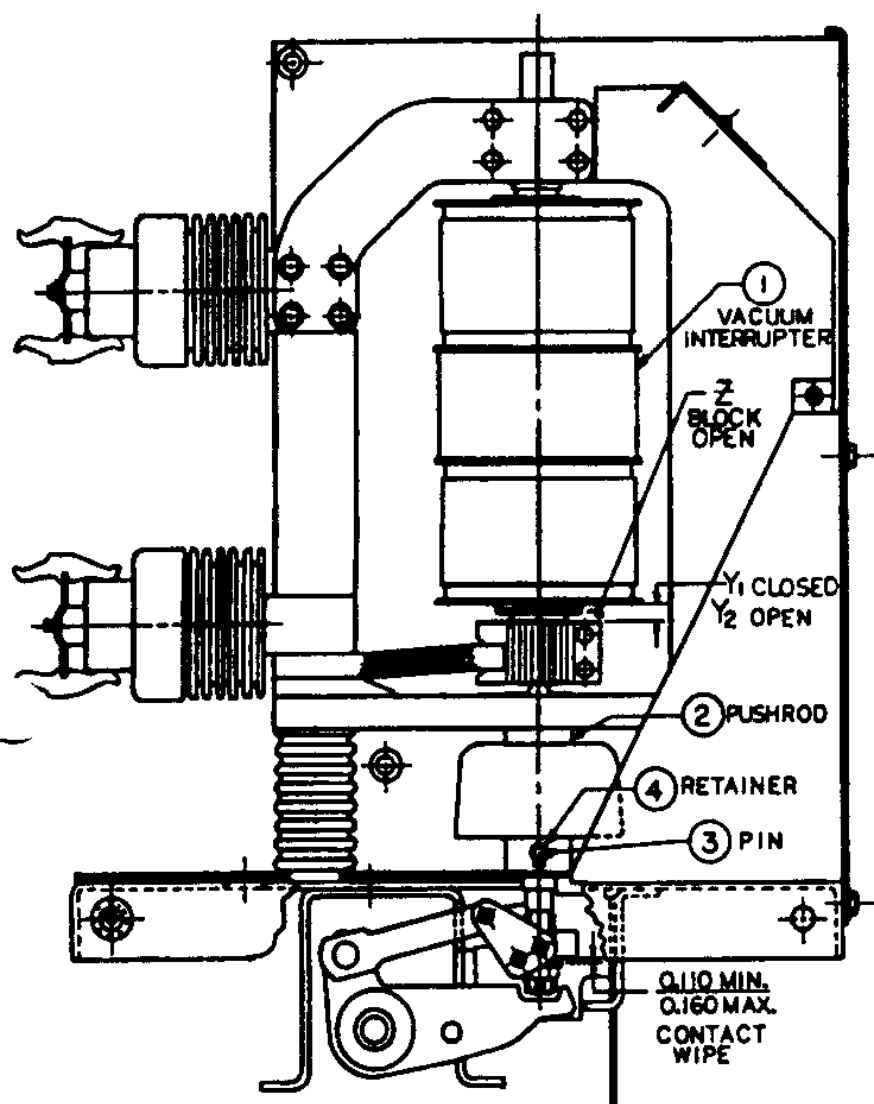

Fig. 5 — Contact Pressure
3. Contact Wipe (contact pressure) (See Fig. 5). The contact air gap and contact wipe is set at the factory by setting the vertical position of the interrupter (1) and the vertical position of the pushrod (2). These parts should not be repositioned in the field unless a pushrod change is required to correct contact sequence as described elsewhere. Contact erosion and wear in mechanical parts will cause a reduction in contact wipe over the life of the breaker. For a check on contact erosion, see section "Erosion Indicator Check."
4. Contact Air Gap Check (See Fig. 5). The contact air gap is set at the factory at the nominal dimension of .35. This value will normally increase as the contacts erode. A check of the contact air gap checks that the breaker does open fully and that the gap is sufficient to withstand the applied voltage. The measurement is made as follows for the three poles:
5. Contact Sequence Check (See Fig. 5). All three poles should touch within 2 millisecond at normal closing speeds. An oscilloscope, oscillograph or other timing method may be used to establish the 2 millisecond timing.